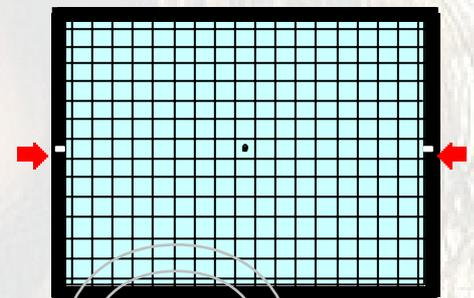

Fig.2-4 NTSC cross hatch
2. Use the [VOLUME +/-] key of the jig remote control and adjust so that the dot mark at the center of crosshatch matches with the center mark on CRT. (Fig. 2-4)